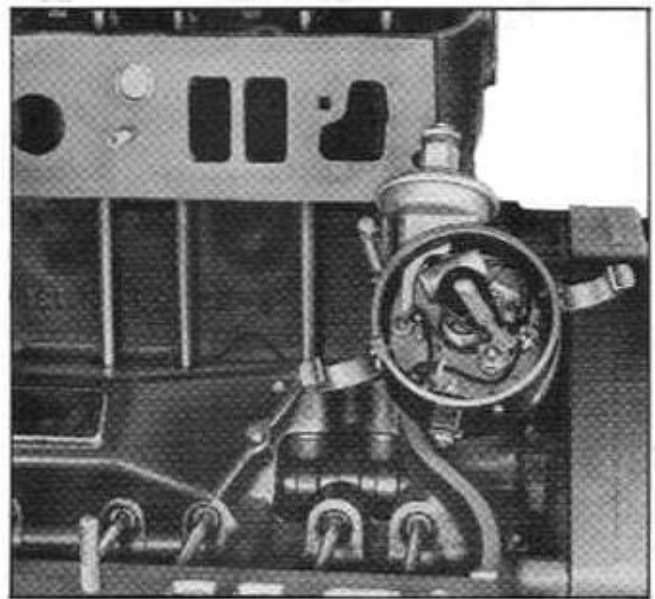

Fig. 6-78 Relationship of Distributor and Rotor for No. 1 Firing Position
c. Install distributor (without cap and wires) so that vacuum diaphragm faces the right side of the engine and rotor arm points toward contact in cap for number one cylinder. It will also be necessary to turn the oil pump drive shaft so it will index with distributor shaft. Distributor and rotor will be positioned as shown in (Fig. 6-78) when properly installed with number one piston in firing position.